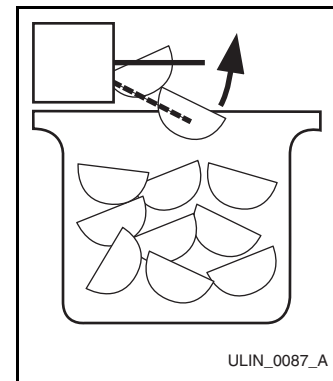

Figure 6
Ice production may be interrupted by raising the bin arm into an upright and locked position (**Figure 6**). The unit will maintain temperature for ice storage.
**If you are not intending to use the ice maker and turn the supply valve off, it is imperative to raise the bin arm of the ice maker (Figure 6). Failure to raise the bin arm may result in damage to the water valve.**